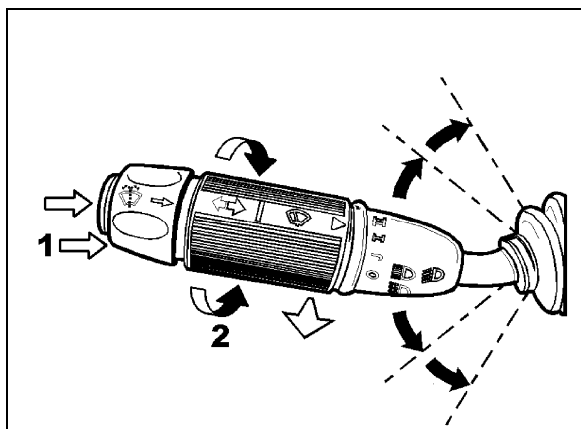

FIGURE 33: MULTIFUNCTION LEVER
Turn the multifunction lever forward to activate windshield wipers (item 2, Figure 33). The first position operates the wipers at low speed and the second position operates the wipers at high speed. Turning the lever backwards will operate the wipers in the intermittent mode.
The windshield washer pumps are electrically operated and are controlled by a washer control ring on the multifunction lever (item 1, Figure 33).